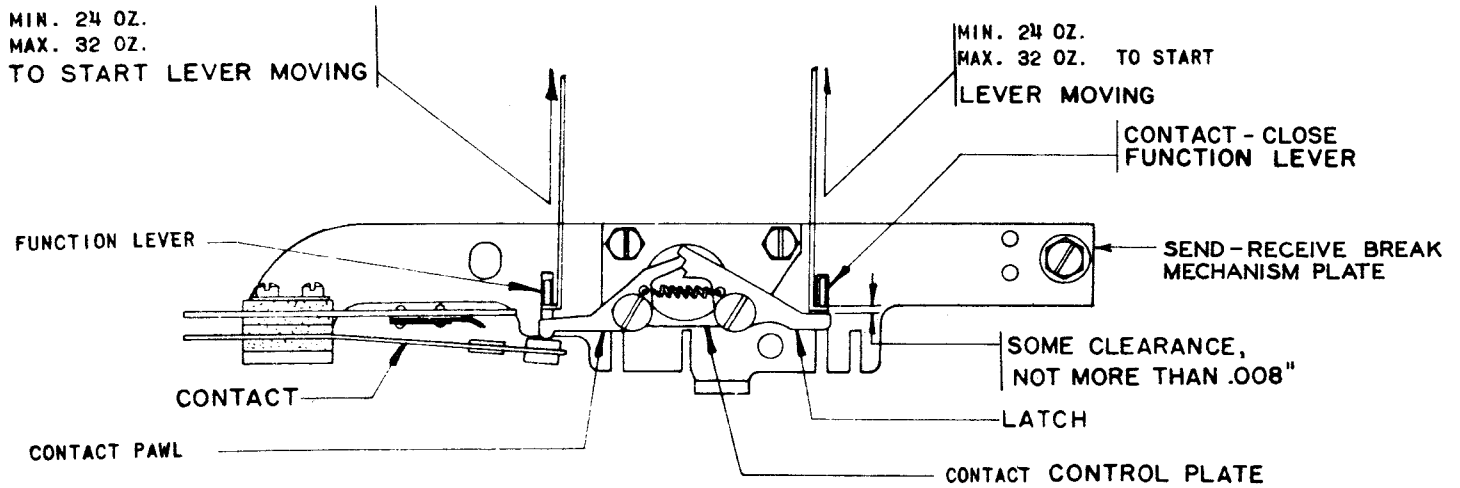

Figure 2
inch as shown in Figure 2, between the horizontal arm of the latch and its function-lever when the contact-pawl is in the upper notch of the latch.
2.13 Function-lever Springs: Set up the Blank selection on the vanes (all spacing) and rotate the main shaft until the function-levers rest against the vanes. It should require minimum 24 ounces, maximum 32 ounces to start the function-lever in slot 13 moving, measured by hooking the scale under the forward extension of the lever, just to the rear of the lobe and pulling upward. Check the spring tension on the function-lever in slot 6 or 7, whichever applies, in the same manner. See Figure 2.